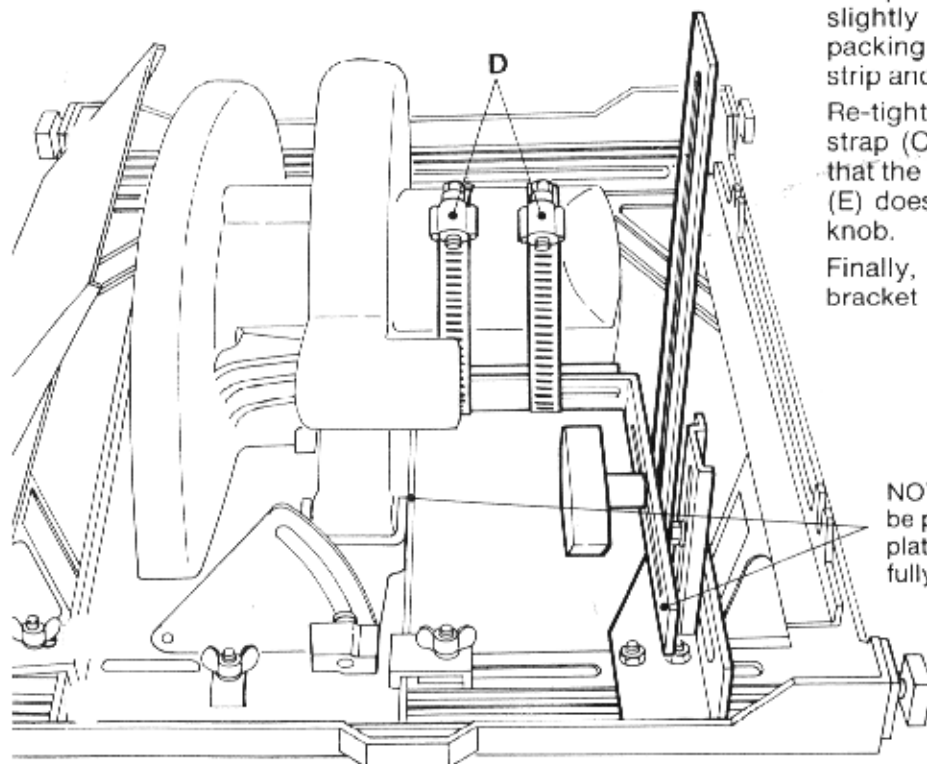

FIGURE 5
Also, ensure that the arm of the saw motor bracket (E) which extends forward is parallel to the edge of the saw's base plate (**Figure 5**). If it is not parallel, either remove the bracket and slightly bend the bracket in a vice, or use shim packing on one side between the rubber cushion strip and the bracket.